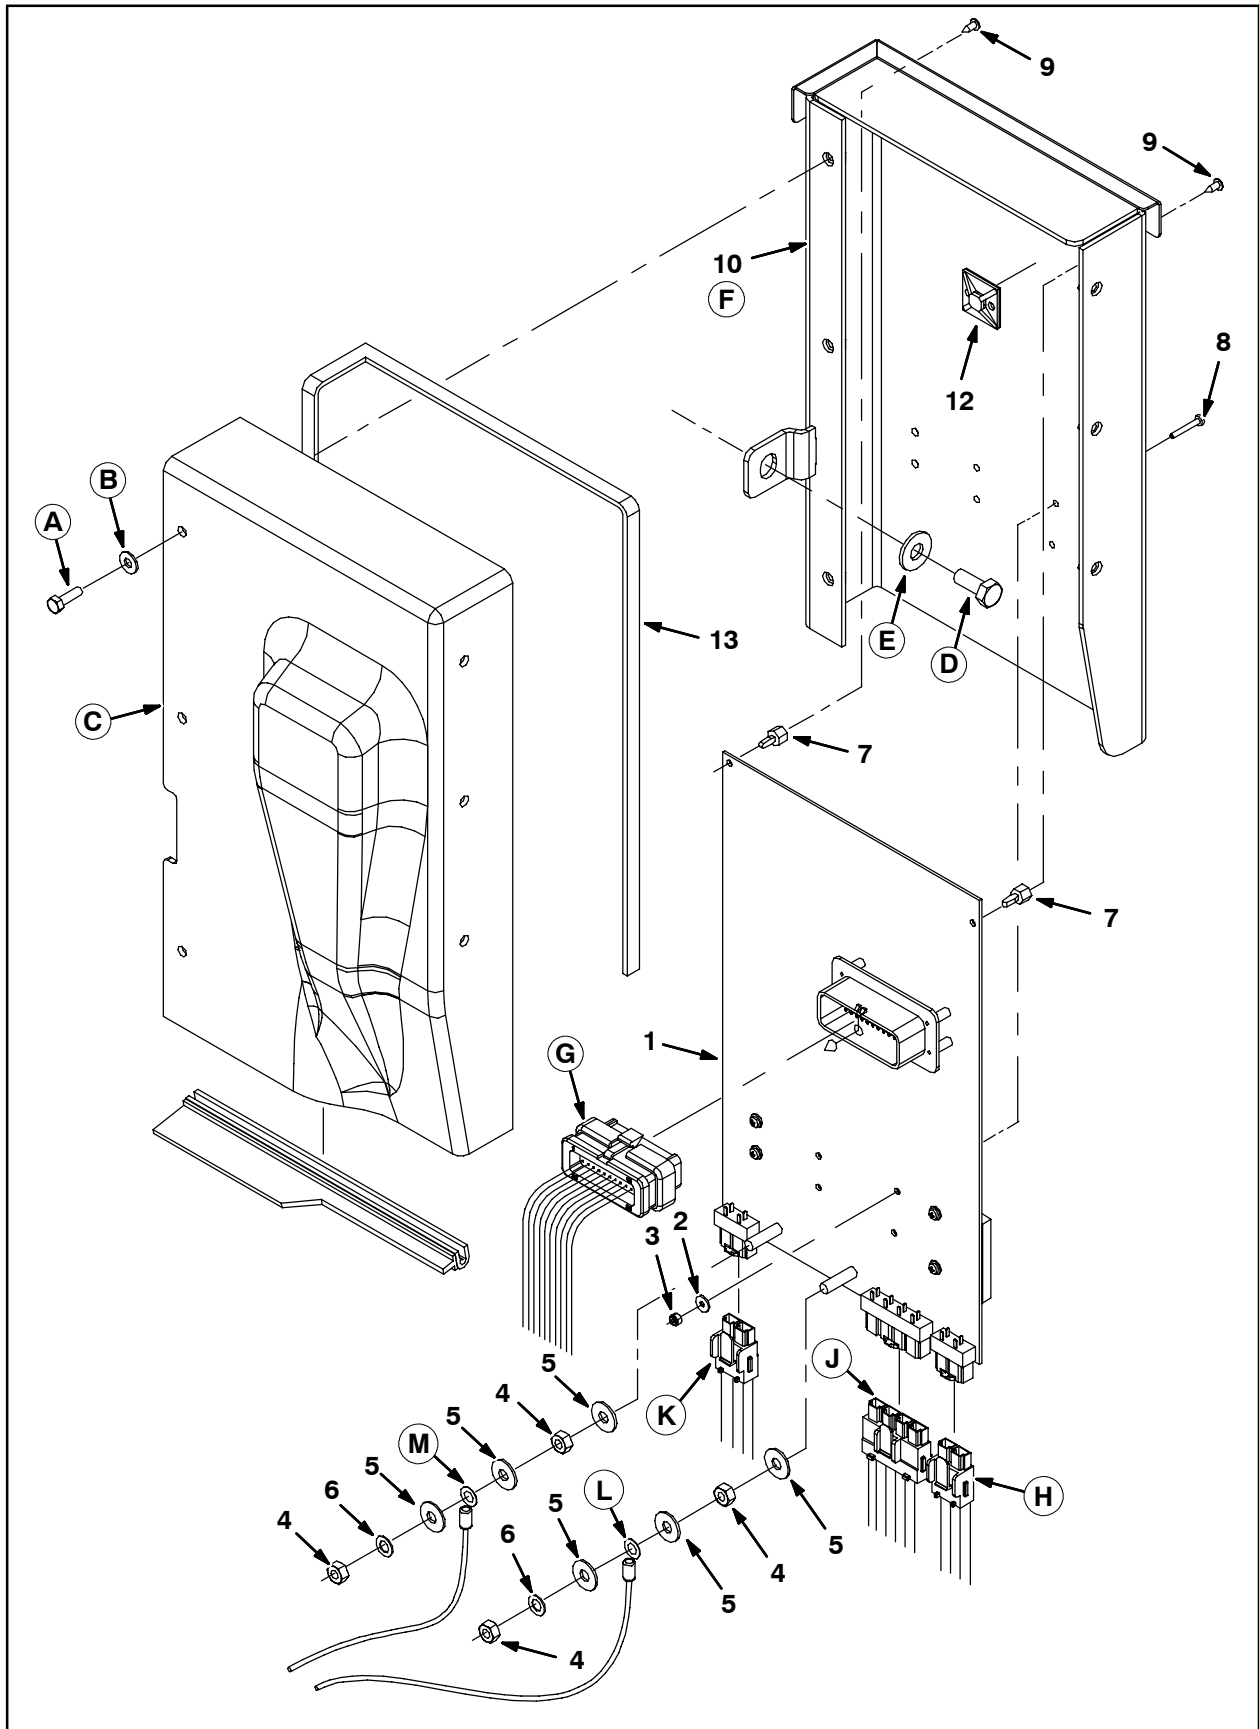

FIG. 4
**(Refer to Fig. 4 for the remainder of this Instruction Bulletin unless otherwise noted)**
1. Remove the six bolts (A) and washers (B) from the electrical panel cover (C) and remove the circuit board cover from the control panel weldment (F).
2. Remove connector (G) from the circuit board.
3. Remove bolt (D) and washer (E) from the control panel weldment (F).
4. Remove connectors (H), (J), and (K) from the circuit board.
9. Use two hex nuts (4), three flat washers (5), and one lock washer (6) to install the positive (+) red power cable (L) onto the positive terminal on the circuit board (1). Torque both nuts to 33 in/lbs. Be sure parts are installed as shown in Fig. 4.
10. Use two hex nuts (4), three flat washers (5), and one lock washer (6) to install the negative (-) black power cable (M) onto the negative terminal on the circuit board (1). Torque both nuts to 33 in/lbs. Be sure parts are installed as shown in Fig. 4.